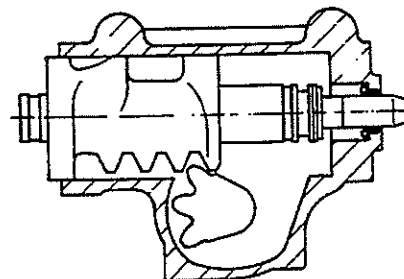

Fig.33
First introduce piston (100) into housing complete with worm (151) until toothed segment engages the first gap in the teeth of piston (100) when swung upwards (**Fig.33**).